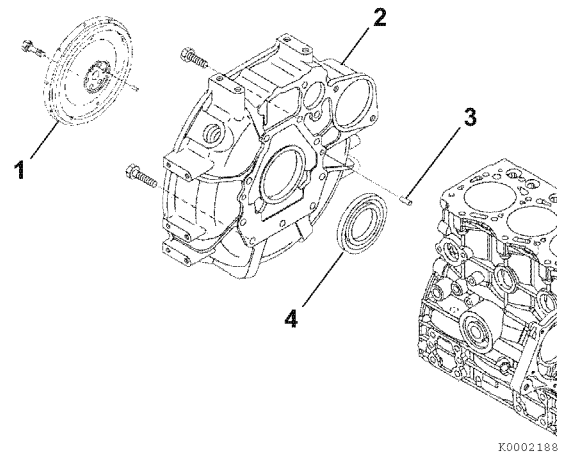

Figure 6-56
1. Remove the flywheel (1, **Figure 6-56**) from the crankshaft.
2. Remove the bolts (2, **Figure 6-56**) from the flywheel housing assembly. Remove the flywheel housing from the engine.